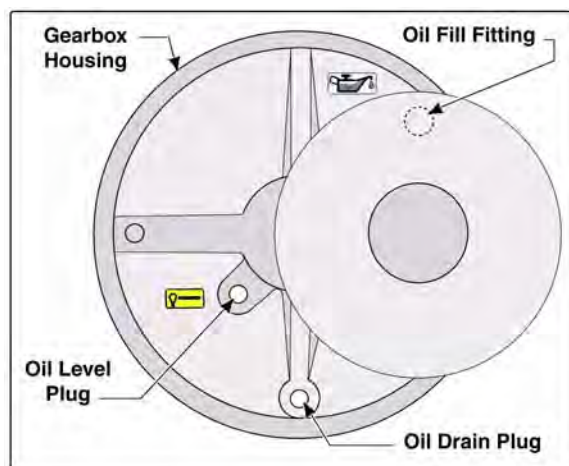

Figure 3-10: Gearbox Oil Change Plugs
2. Remove the oil LEVEL and FILL plugs. (See Figure 3-10: "Gearbox Oil Change Plugs.")
3. If oil trickles from the oil LEVEL plug, there is sufficient oil in the gearbox. (See Figure 3-10: "Gearbox Oil Change Plugs.")